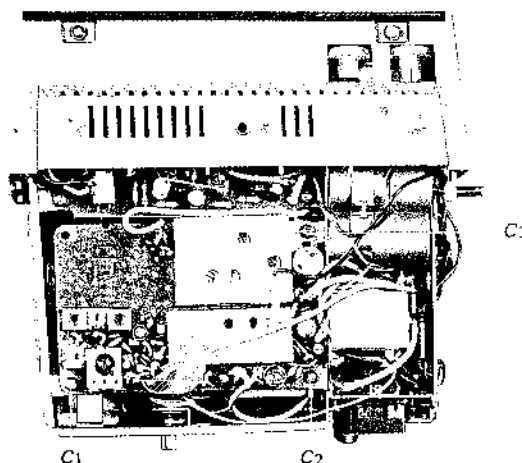

Fig. 2-4
1. Remove the three screws labeled C1 C3 in Fig. 2-4.
2. Take off the BC board as shown in Fig. 2-4.